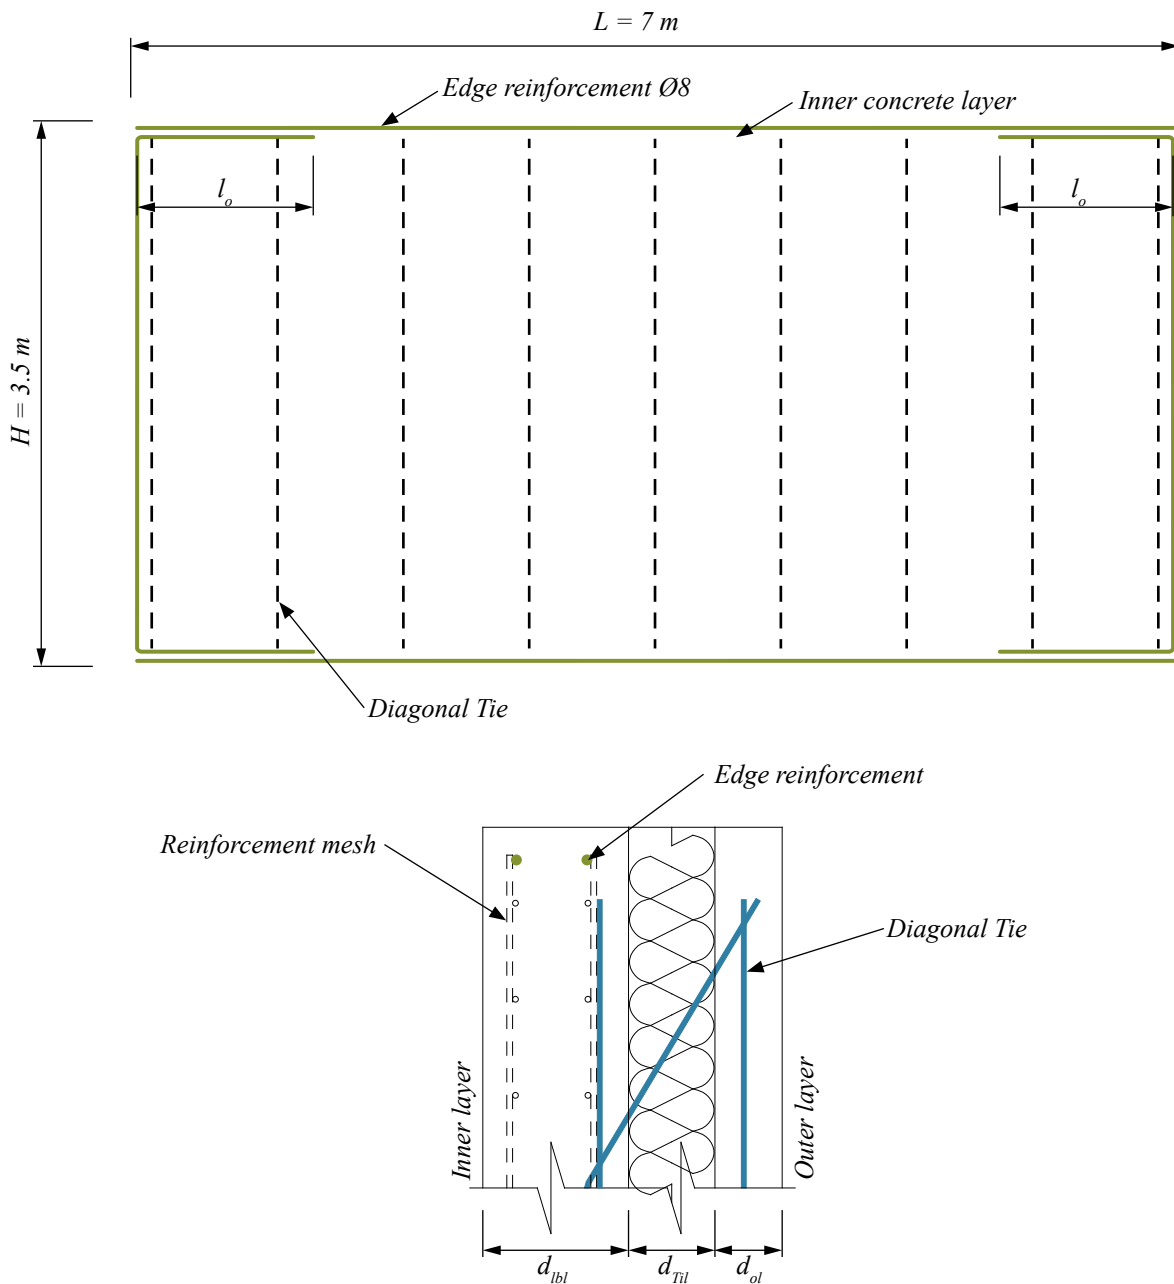

Figure 13. Placement of the edge reinforcement in the inner layer.
- Recommended minimum edge reinforcement of inner concrete layer: Ø8 (see *Figure 13*).